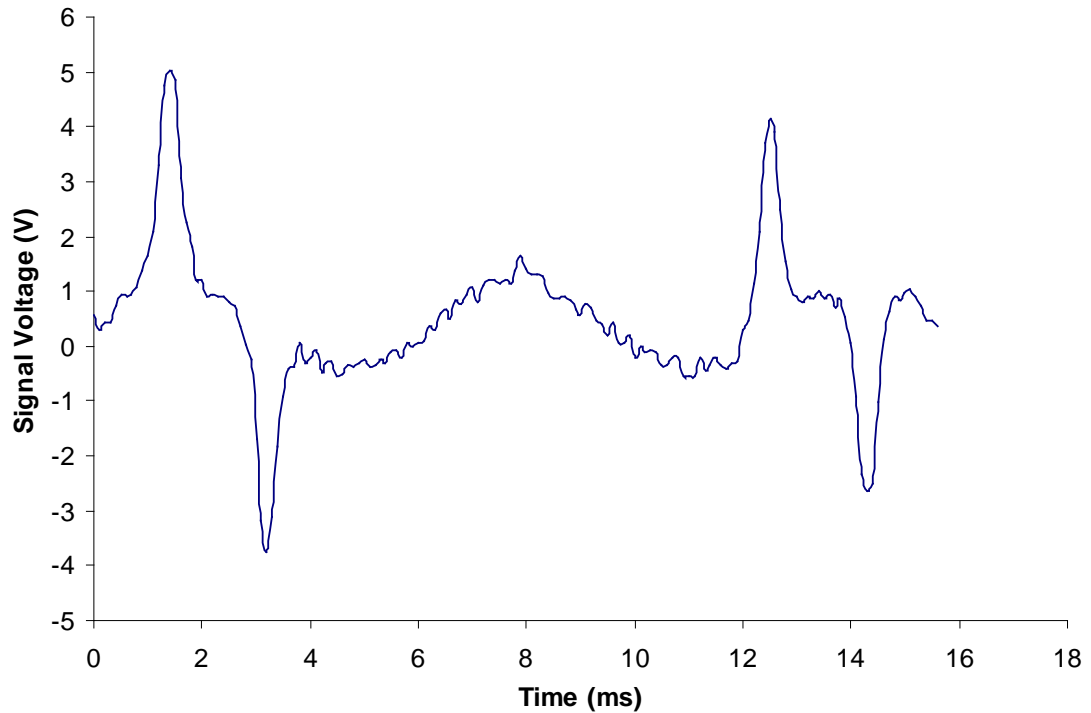

Figure Q3[a]
- Q3. [a] A speed pickup triggers the spark circuit in a small motorcycle. The signal voltage is shown in Figure Q3[a]. The engine is running at approximately 5400 rpm.**